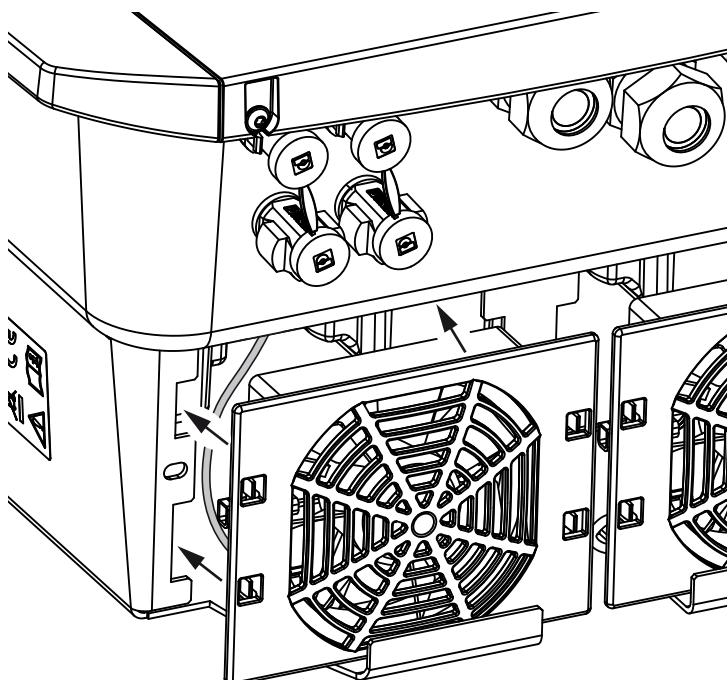

Fig. 66: Fan installation
- The fan must be correctly installed in the fan frame (air flow direction).  **Fig. 66**